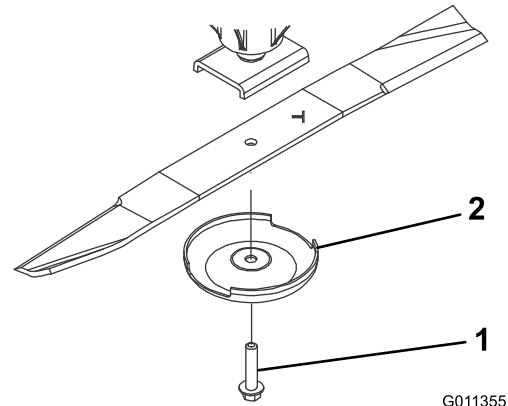

Figure 1
2. Remove the blade bolt, anti-scalp cup, and blade from the spindle shaft (Figure 1).